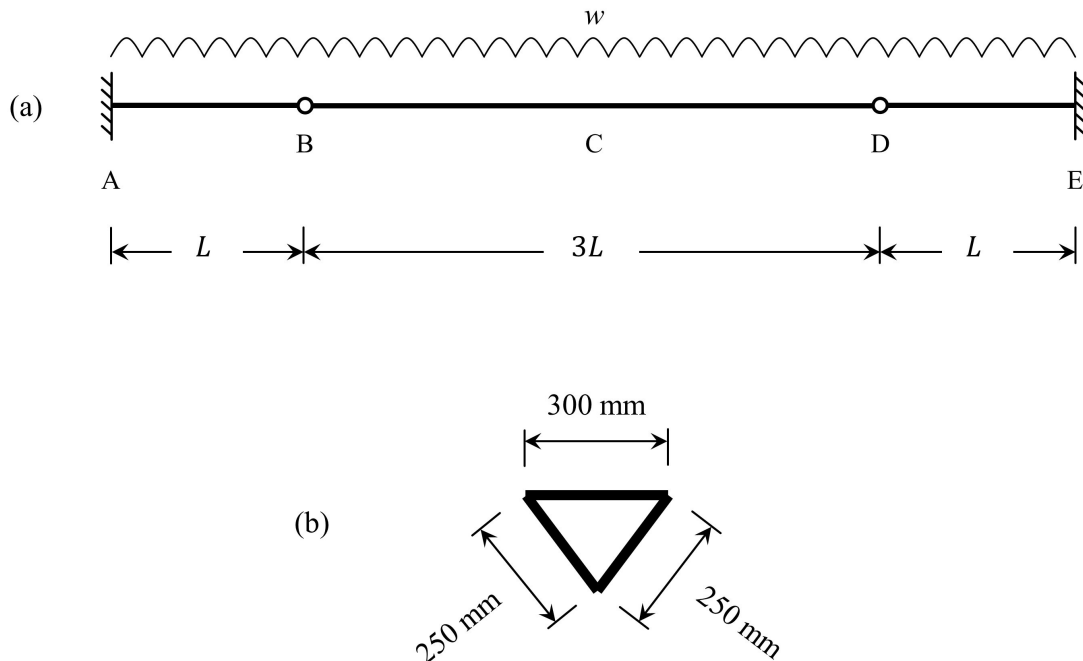

Fig. 5
Figure 5(a) shows an arrangement of beams of uniform cross section having flexural rigidity  $EI$ . The beams support a uniformly distributed load  $w$  per unit horizontal length.
- (c) A possible design for the beam using a welded triangular box section manufactured from 10 mm thick steel plate is shown in Fig. 5(b). If the steel plate has a yield strength of 275 MPa, what is the maximum value of bending moment that the section can sustain before first yield? [10]